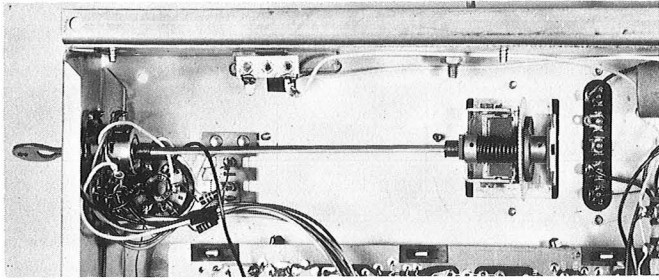

Figure 3.
5. Install the appropriate Connector Link between the slotted shafts of the Motor, Mounting Bracket and Wire Assembly and the Amplifier Volume Control, as shown in Figure 3